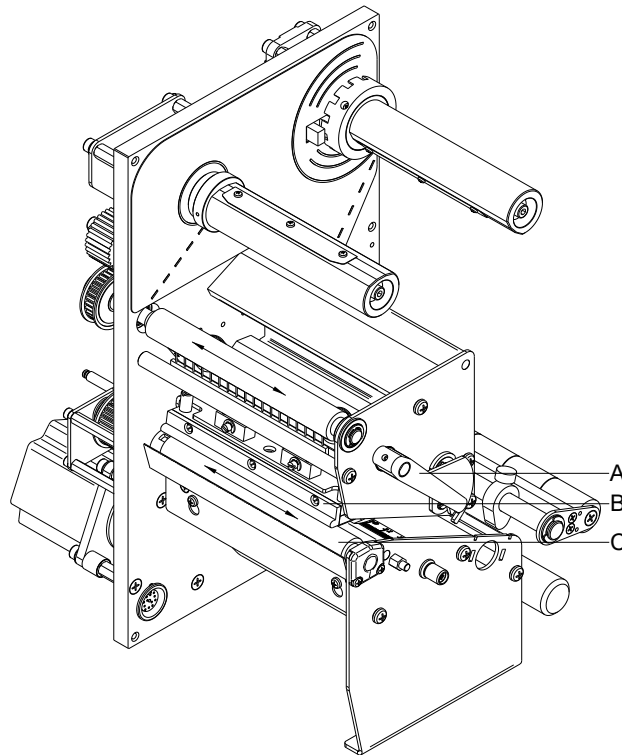

Figure 13
2. Turn the lever (A, in Figure 13) counter clockwise to lift up the printhead.
7. To move the printhead down, turn the lever (A, in Figure 13) in clockwise direction until it locks.